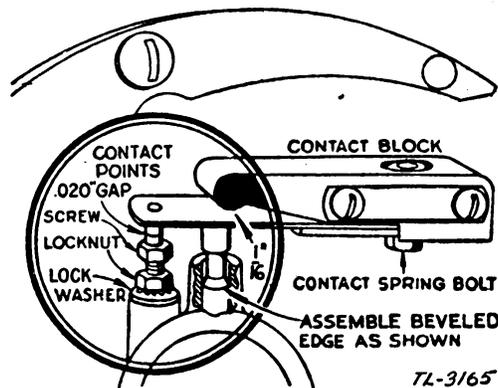

FIGURE 12. Magneto contact points.
(3) While the magneto plate is on the motor crankcase (see par. 12 for removing flywheel) turn the crankshaft by hand to see if the contact points open and close properly (fig. 12). Points must be clean and must be lined up squarely to make good electrical contact. Do not file the